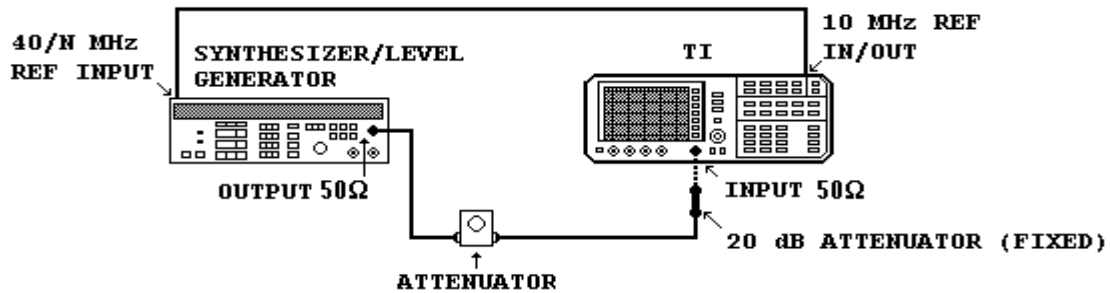

Figure 1. Input attenuator accuracy (50 MHz) - equipment setup.
- (1) Connect equipment as shown in figure 1.